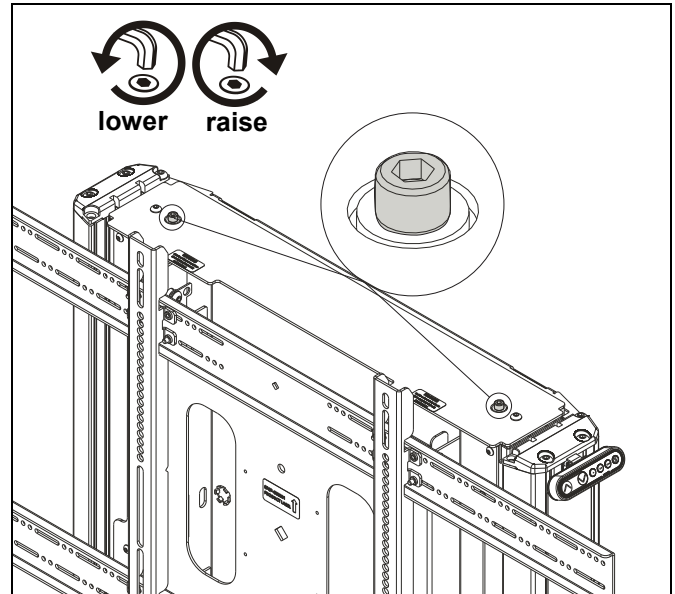

Figure 22
1. Use 3/16" hex key to adjust leveling adjustment screws on top of cart. (See Figure 22)